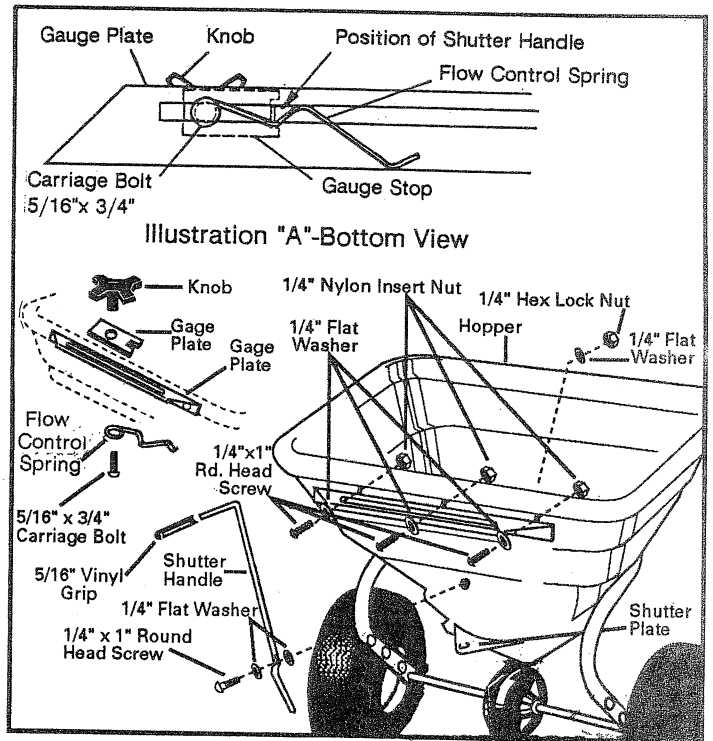

FIG. 7.
Refer to FIG. 7.
- Secure with 5/16" x 3/4" carriage bolt, flow control spring (under carriage bolt head) as shown in Fig. 7-Illustration "A". Insert from under gage plate, up through gage stop, securing with plastic knob. Slide to the left and tighten.
- The control lever operates the flow control shutter. The flow control decal (Fig. 7) is marked OFF to 10. The position selected determines the amount of material to be broadcast. The higher the number, the heavier the application of material.
NOTE: Close shutter before filling hopper. Keep the plastic knob (Fig. 7) and gage stop tight at all times.